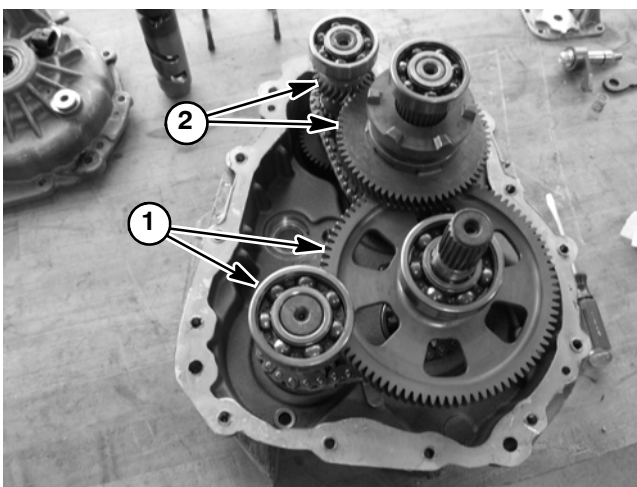

Figure 65
6. With the help of a second person, carefully install front and rear output shafts (Fig. 55 items 35 and 38) along with reverse and input shafts (Fig. 55 items 37 and 50) as a complete assembly into the front gear case. During installation, take care to not damage seals in gear case. After installation, make sure that shafts rotate without binding (Fig. 65).